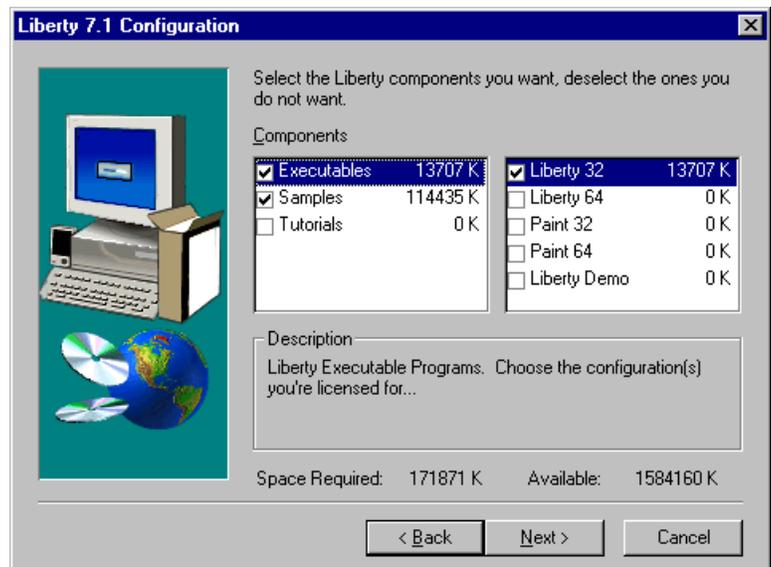

Figure 2-6. Custom Set-up Selections
- **Custom** (Figure 2-6): Installs Liberty Executables and program files, allowing you to choose to install Samples and/or Tutorials